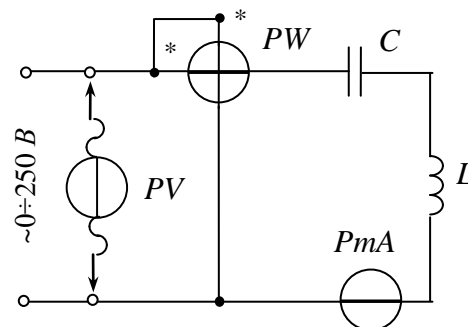

Fig. 4.11
1. Collect the circuit (fig. 4.11) and connect it to the clamps $\langle \sim \rangle$ $\langle 0 \div 250 V \rangle$. Place *LATR* switch in position $\langle \sim \rangle$, $0 \div 250 V$.
The name and purpose of the work. Homework – the calculation of the circuit. Schematic diagram of the investigated circuit (fig 4.11). Tables 4.2, 4.3. The substitutional schemes of coil and capacitor and calculations of their parameters. The vector diagrams. Conclusions.